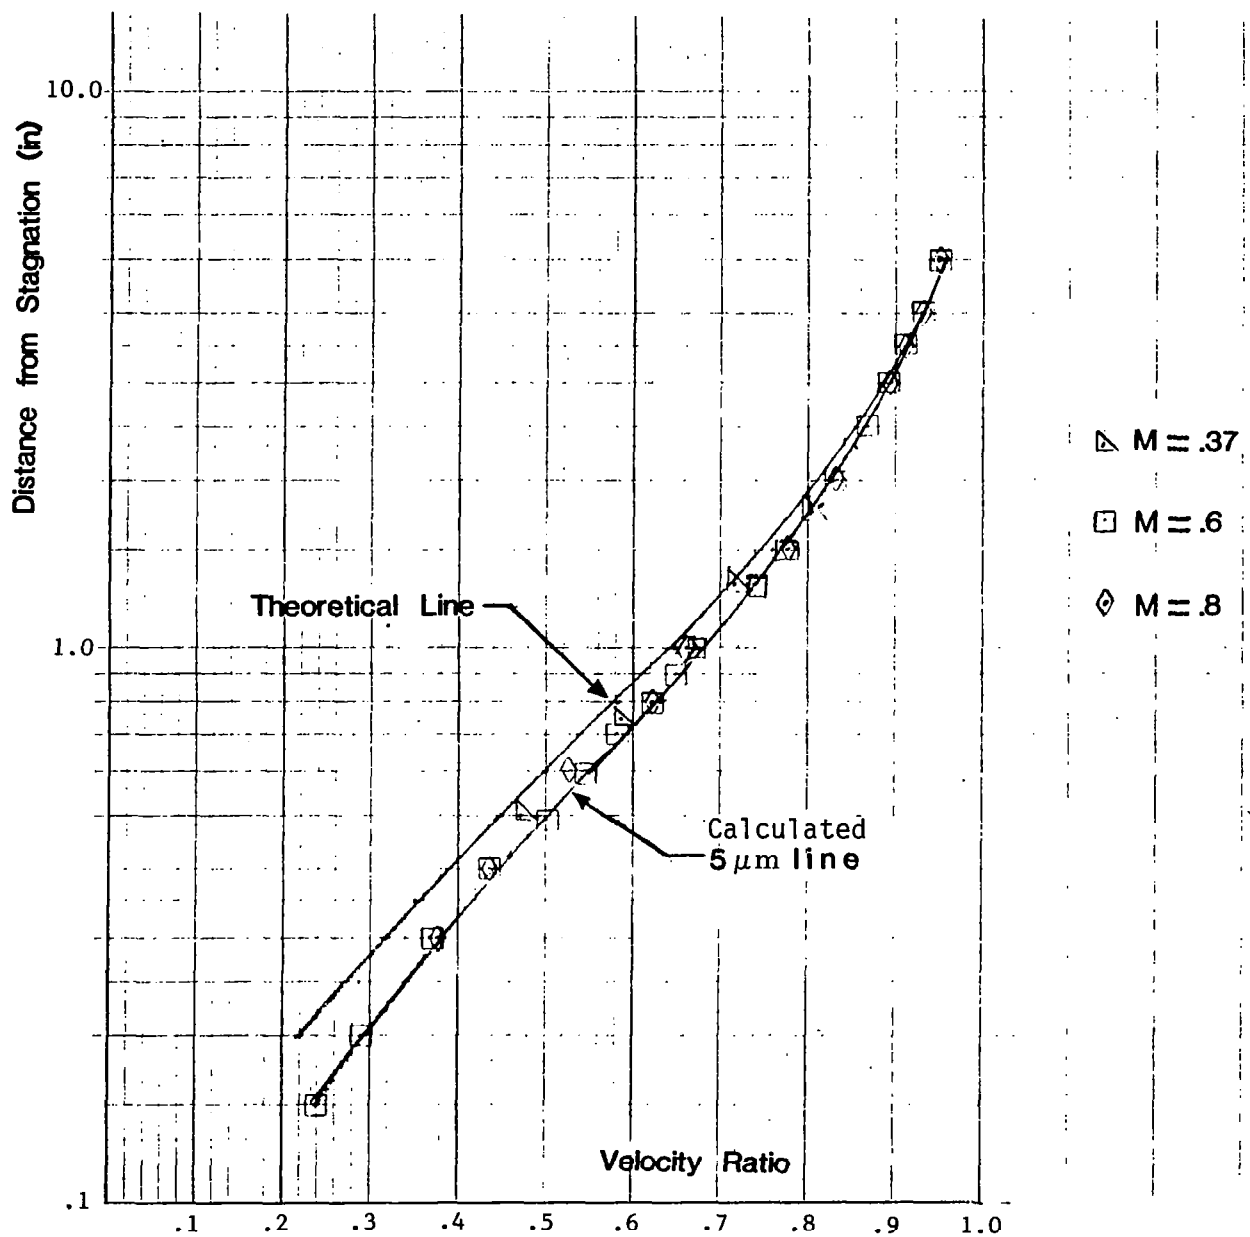

Figure 1.- Comparison of LV measurements to theoretical values of velocity as the particle approached a blunt nose body along a streamline.
The results from any laser velocimeter (LV) depend upon the seeding particles. If they are too large they fail to follow the flow, if too small they may be impossible for your system to see. Thus, when we at Lewis decided to use a laser velocimeter to measure the properties of propellers, seeding was a great concern. Many methods were tried and weeded out by using a Malvern particle sizer. The most promising ones were tested in the tunnel and the LV measurements compared to theoretical values of velocity as the particle approached a blunt nose body along a stagnation streamline. Data obtained from the LV system are compared with the one dimensional particle lag calculation in figure 1. This figure shows the theoretical velocity over the blunt nose and a velocity profile for 5 μm particles. This indicates the particles were approximately 5 μm .